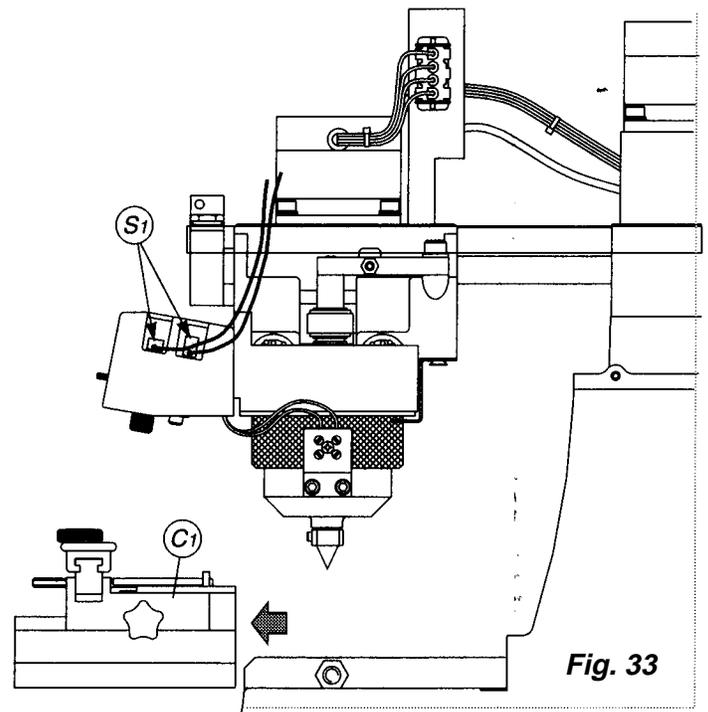

Fig. 33
3. Remove the clamping fixture (C1) (Fig 33).